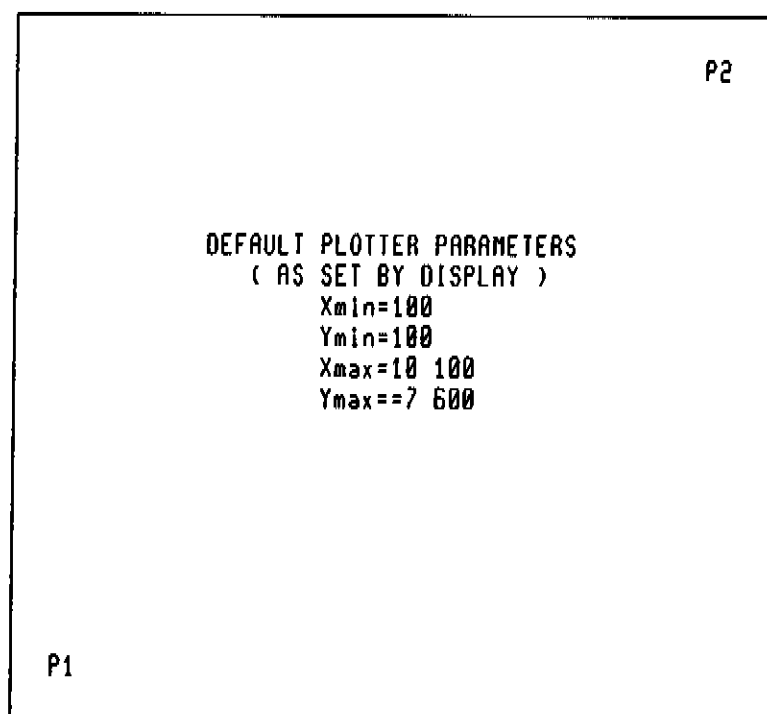

Fig. 2-52.
In figure 2-52 the default plotting area for the HP 7475A 6-Pen Graphics Plotter is outlined. **P1** is the lower left corner, **P2** is the upper right corner.
1. To set plotter parameters to their standard default values, press [DSP], ◀DEFINE HARDCOPY▶, and ◀DEFAULT VALUES▶ (see ◀DEFAULT VALUES▶ description in this chapter). Xmin, Xmax, Ymin, and Ymax will be set to the values shown in the figure above (Figure 2-52). These values will allow 0.5 inch margins on 8.5 by 11 inch paper.